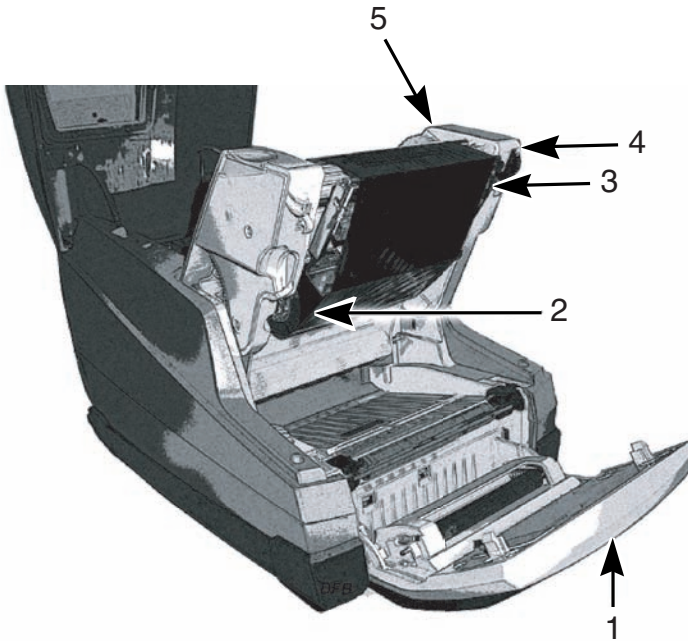

Figure 4, Loading the Ribbon
3. Pull the front cover (**Figure 4, 1**) toward you and lift the ribbon carrier into the loading position (**Figure 4, 4**).
4. Position the square end of the new ribbon spindle in the square notch on the right side of the printer, push the spindle slightly to the right and slide the other end of the spindle into the notch (**Figure 4, 2**) on the left side of the printer.
5. Bring the ribbon end forward and over the thermal printhead (**Figure 4, 3**) to the ribbon take-up spindle (**Figure 5**).
7. Turn the adjustment wheel (**Figure 4, 5**) a few complete clockwise revolutions, to ensure that the ribbon will not pull out from under the ribbon hold-down tab. The ribbon should now be snug and smoothed out against the printhead.